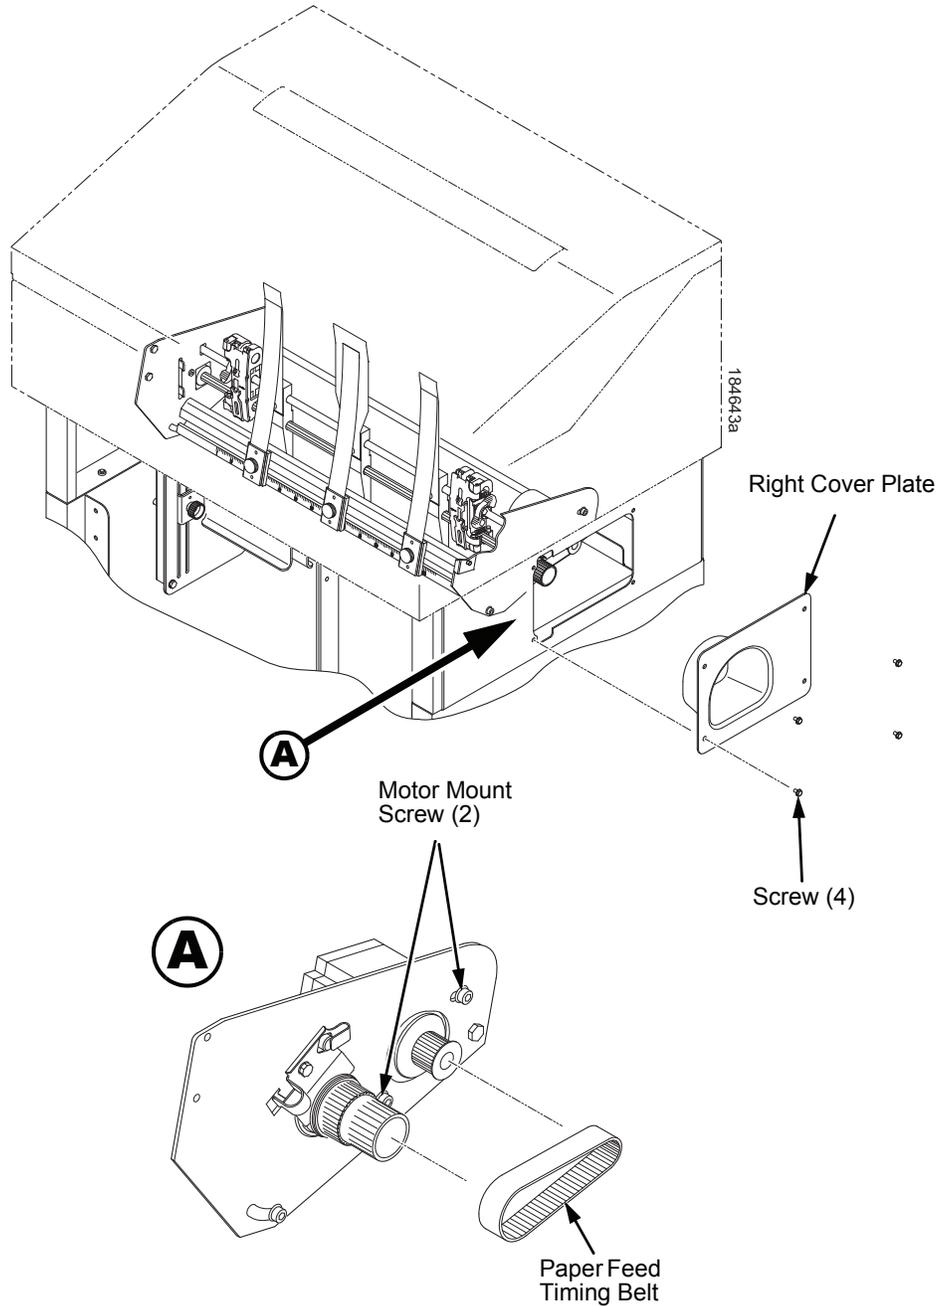

Figure 12. Removing the Right Cover Plate
2. Remove the hex screws and right cover plate. (See Figure 12.)
10. Install right cover plate. (See page 452, Figure 12.)